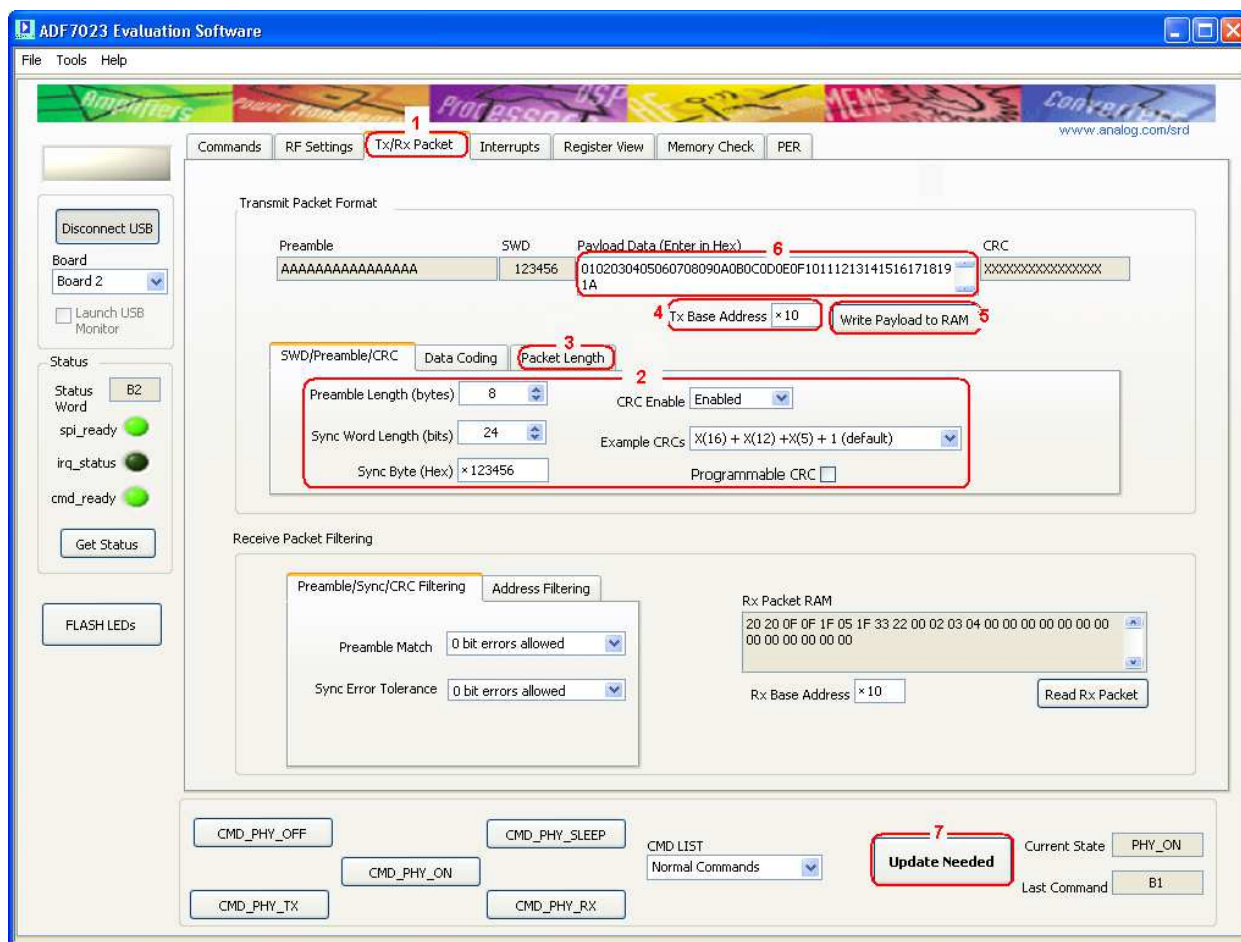

Figure 35
Using the Tx/Rx packet tab you can set up the packet format and configure the packet handler. Ensure these settings are the same as the Receiver settings previously set. (Figure 35 point (1))
1. The transmitted preamble length sync word and CRC can be defined by the user. (Figure 35 point (2))
2. Ensure you are using a fixed packet length and that, “**Packet Length Max**” is set equal the payload length. (Figure 35 point (3))
3. Set up the Tx base address. (Figure 35 point (4))
4. Insert Hex data in the **Payload Data** field (Figure 35 point (5))
then click “**Write Payload to RAM**” (Figure 35 point (6))
5. Write the settings to the device using the “**Update Needed**” button. (Figure 35 point (7))